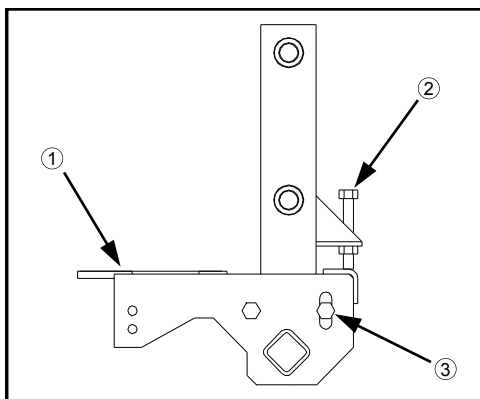

FIG 4.13
5. Normal operating angle of the quad puller is obtained when the tool bar mount surface is parallel to the ground (fig. 4.13, item 1). This angle can be varied by an adjusting bolt (fig. 4.13, item 2) and slot (fig. 4.13, item 3).